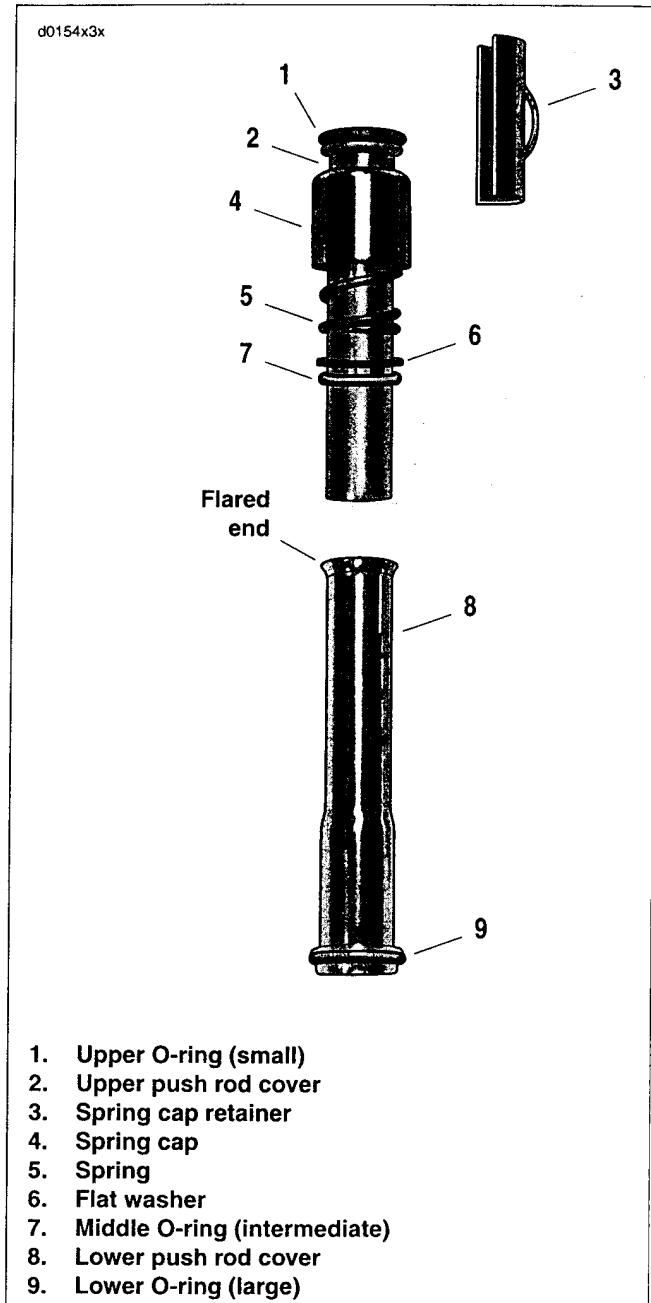

Figure 3-89. Assembled Push Rod Cover
1. See Figure 3-89. Obtain three **new** o-rings (1, 7 and 9). Apply a very thin film of clean H-D 20W50 engine oil to O-rings before installation.
2. Install **new** small O-ring (1) on seat at the top of the upper push rod cover (2).
3. Slide the spring cap (4), spring (5), flat washer (6) and **new** intermediate size O-ring (7) onto the body of the upper push rod cover. Move parts up body until spring cap (4) contacts upper O-ring seat.
4. Fit the straight end of the upper push rod cover into the flared end of the lower push rod cover (8).
5. Install **new** large O-ring (9) on seat at bottom of lower push rod cover.